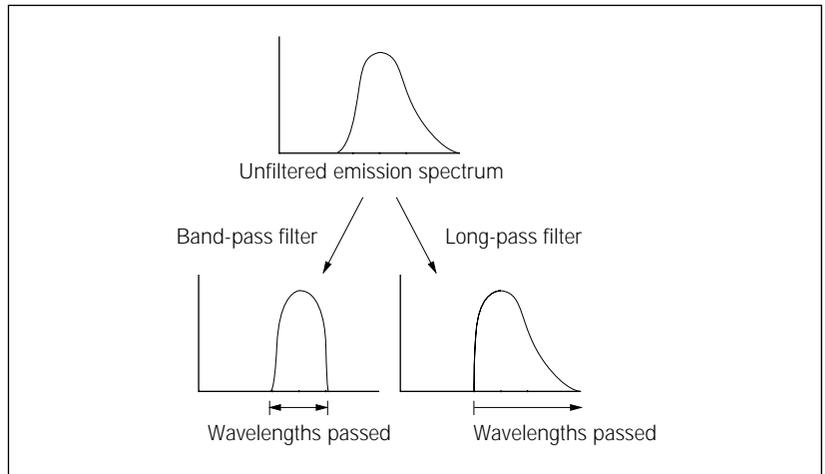

Figure A-4. Effect of band-pass and long-pass filters on light passing through the filter.
- **Band-pass**—Rejects most of the light with wavelengths shorter than a specified cutoff and longer than a second specified cutoff. Allows light of wavelengths between the two cutoffs to pass through (figure A-4).
- **Long-pass**—Rejects light with wavelengths shorter than a specified cutoff and allows light of longer wavelengths to pass through (figure A-4).